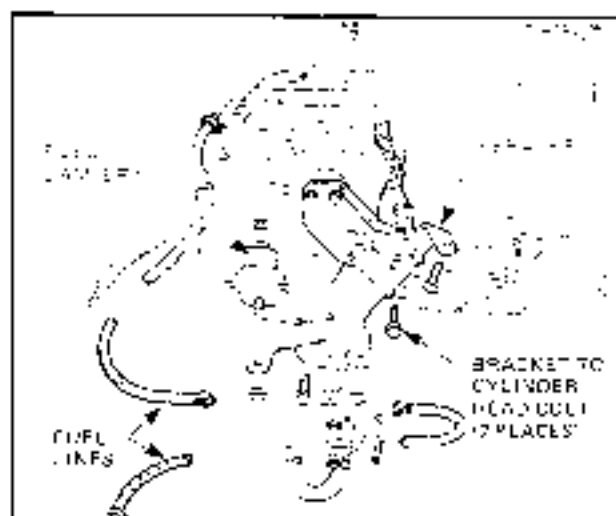

Figure 6A-27
21. Remove wiring connectors from fuel injectors, throttle position switch, coolant temperature sensor. Refer Fig. 6A-28. To avoid damage, do not pierce wires at the connectors.